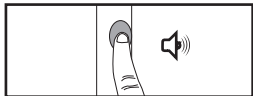

Figure 23.1; Press and Hold Programming Button
Press the PROGRAMMING BUTTON on each E-Wand you wish to pair to the remote until you hear a SINGLE BEEP (1) [Fig. 23.1], then release.